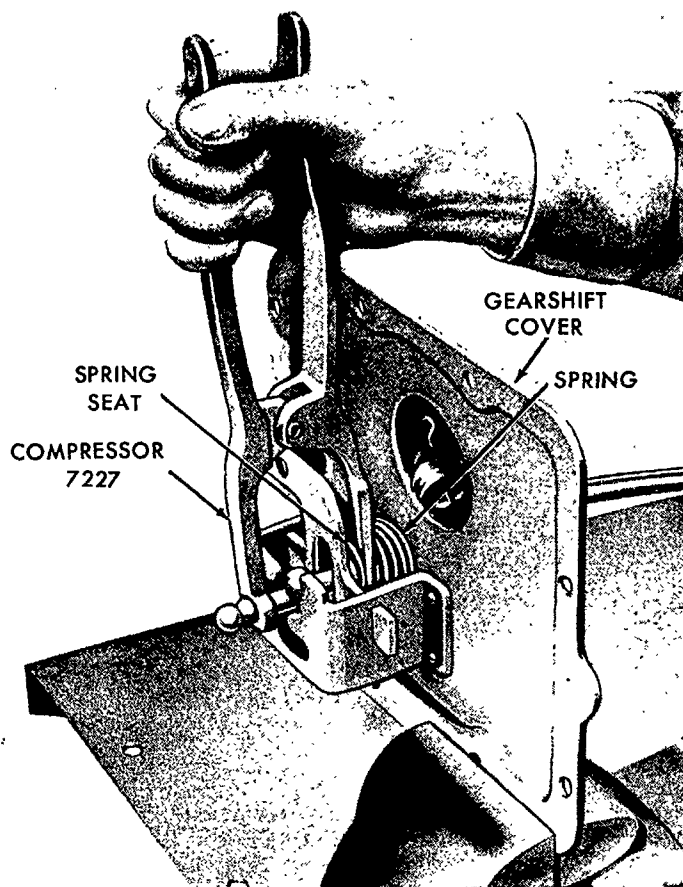

Figure 8
4. Compress the gearshift lever spring and remove the spring seat as shown in Figure 8.
2. Install the gearshift lever spring and spring seat, Figure 8. Move the lever to check for proper seat position. A clicking noise will indicate that the spring seat is improperly positioned.